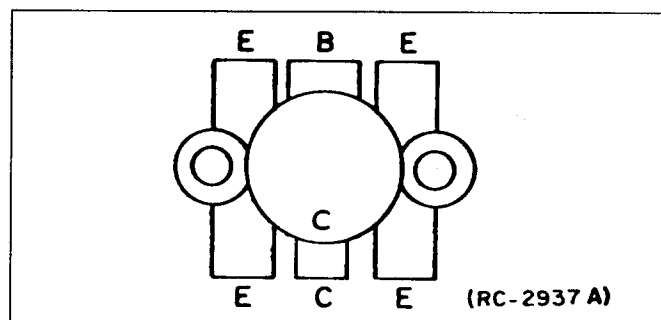

FIGURE 6 - LEAD IDENTIFICATION
1. Trim the new transistor leads (if required) to the lead length of the removed transistor. The collector lead is identified by the smaller center lead (See figure 6). The letter "C" on top of each transistor also identifies the collector.